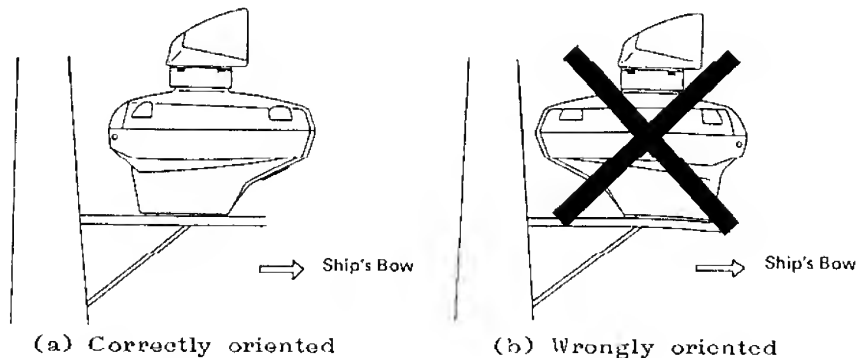

Fig.2. Mounting of Scanner Unit
3. Place the scanner housing on the chosen position, and orient it as shown in Fig.2(a).